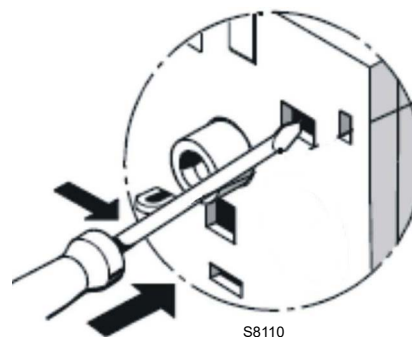

Fig. 32
- To test the thermal relay, insert a screwdriver in the window **"TEST"** (Fig. 32) and move it in the sense of the arrow (towards right).
- **Contact test NC (95-96) and NO (97-98)(Fig. 32)**